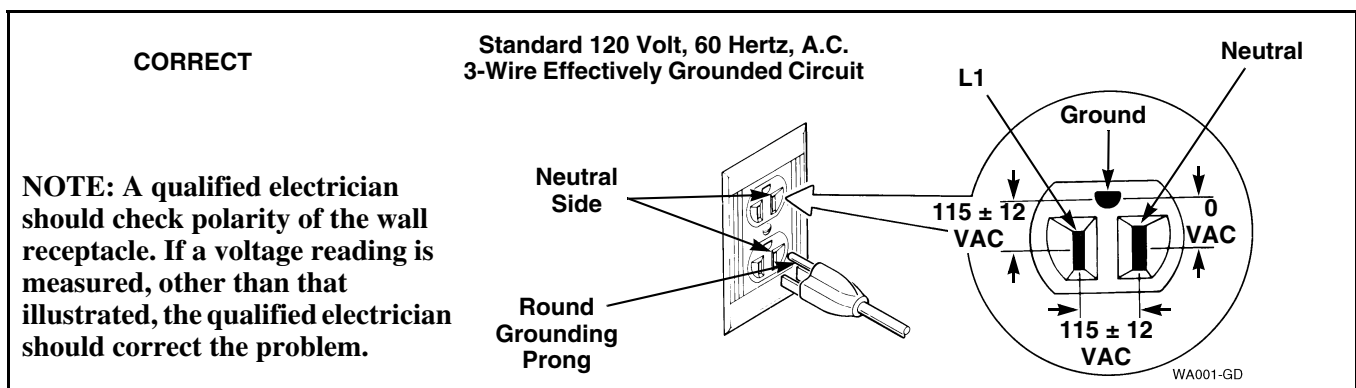

Figure 50
- Three-prong grounding plug on power cord should be plugged directly into a polarized three-slot effectively grounded receptacle rated 110/120 Volts AC (alternating current). Refer to *Figure 50*.